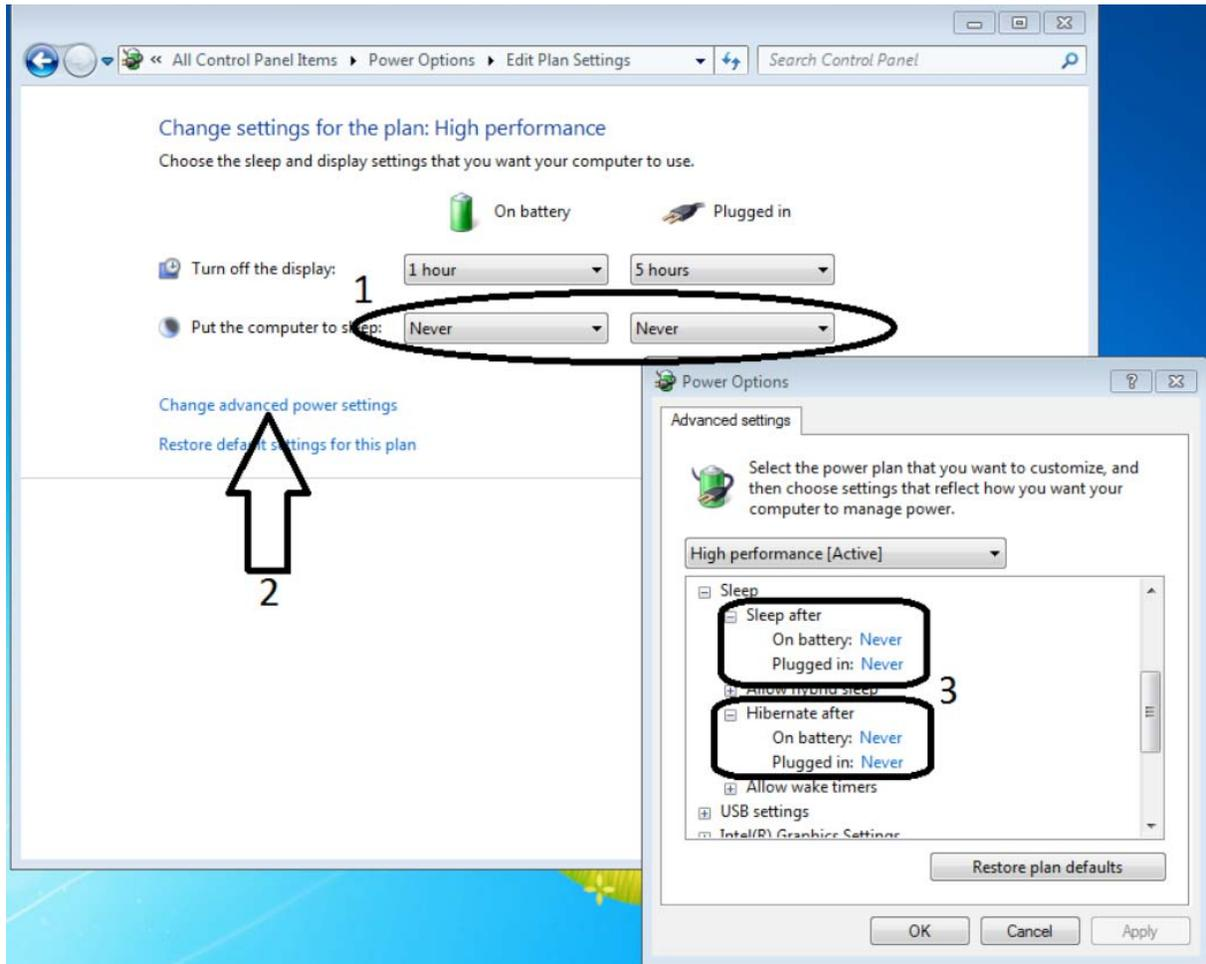

FIG. 53
3. Select Power Plan Balanced, and click on Change plan settings (1, FIG. 53).
4. Change “Put the computer to sleep” to Never (2, FIG. 53)
5. Click on Change advanced power settings (3, FIG. 53).
6. Change “Sleep after” and “Hibernate after” to Never. (3, FIG. 53)